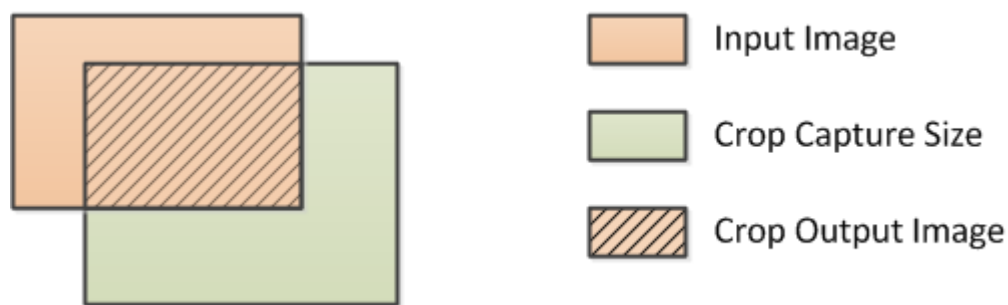

Figure 13. Cropping Rules when Crop Size exceeds Input Size
5. If a crop size parameter exceeds the size of the input image, the controller uses the input image size minus the Capture Start Pixel/Line (as appropriate) (as shown in Figure 13). Regardless, the crop size parameters returned by the Read Image Crop command always equal the values specified by the Write Image Crop command.